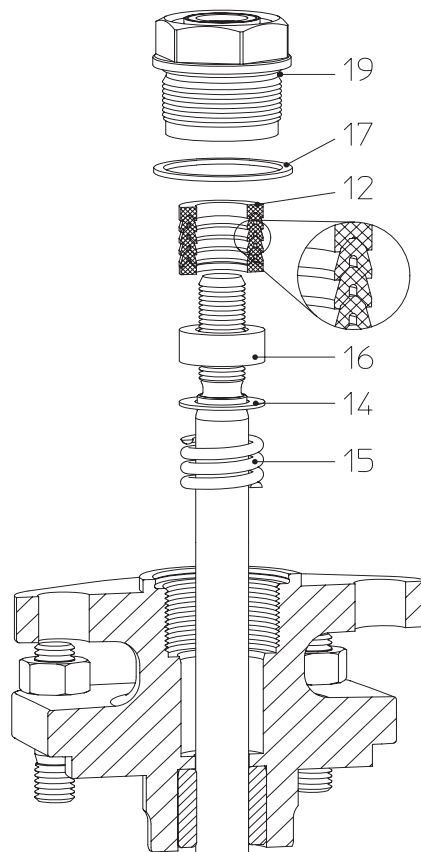

Fig. 18:
- When replacing PTFE V-ring unit (pos. 12), make sure that the parts are installed in the correct order and positions (refer to Fig. 18).
- Gasket (pos. 17) must be replaced.